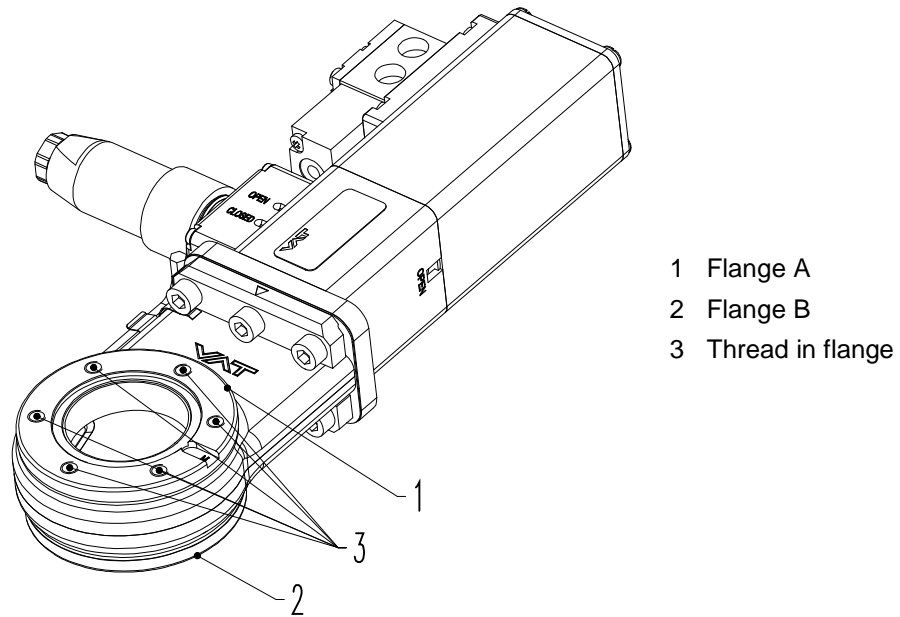

Figure 4-1
see (1) and (2) according to «Figure 4-1» on page 11.
4. Mount the 6 screws (or clamping ring) according to «Figure 4-1» on page 11, evenly in crosswise order until the seal touches the sealing surface.